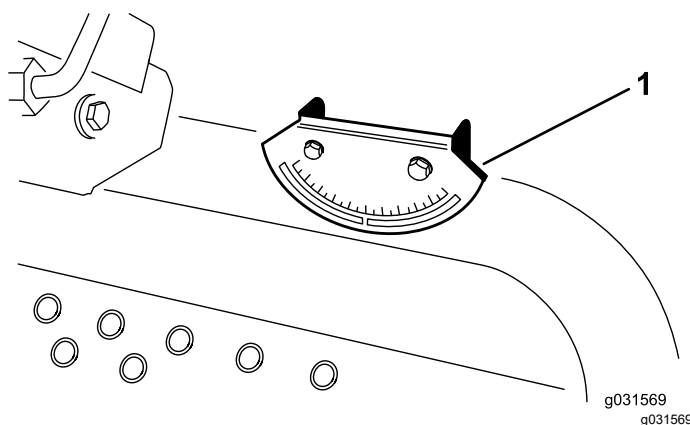

Figure 4
**Note:** The angle indicator, mounted on the machine, should now read 0° also (Figure 4).